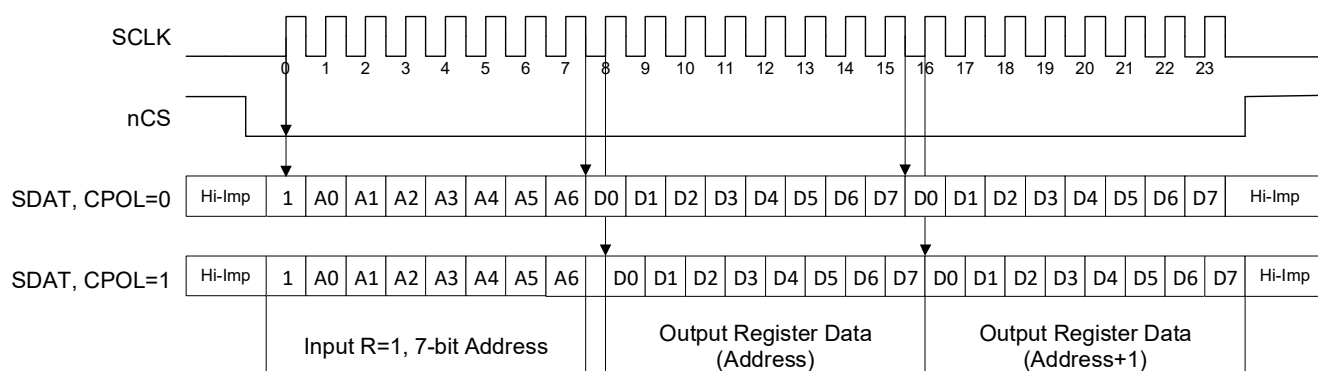
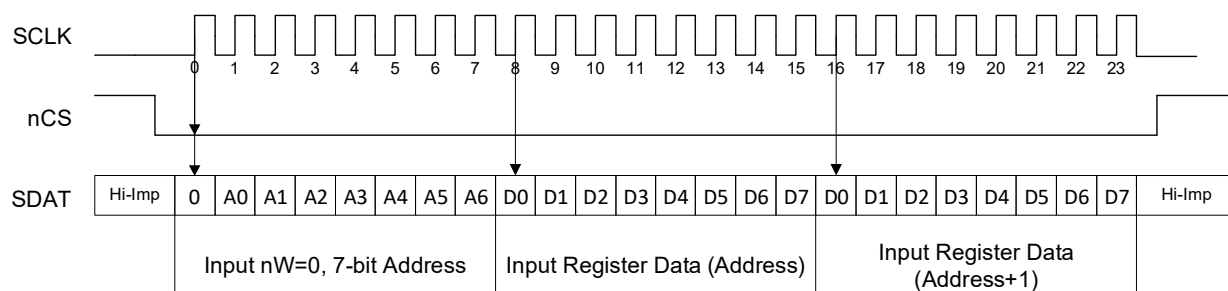

Figure 9. Logic Diagram: READ Data from RC18016 Registers for CPOL = 0 and CPOL = 1
Figure 10. Logic Diagram WRITE Data into RC18016 Registers
**Read operation:** Read from an internal register. A read operation starts with an 8-bit transfer from the master to the slave. SDAT is clocked on the rising edge of SCLK. The first bit is the direction bit R/nW which must be to 1 to indicate a read transfer, followed by 7 address bits A[0:6]. After the first 8 bits are clocked into SDAT, the SDAT I/O changes to output: the register content addressed by A[0:6] is loaded into the shift register and the next 8 SCLK falling clock cycles (if CPOL = 0) will then present the loaded register data on the SDAT output and transfer these to the master. Transfers must be completed by de-asserting nCS after any multiple 8 SCLK cycles. If nCS is de-asserted at any other number of SCLKs, the SPI behavior is undefined. SPI byte (8 bit) and back-to-back read transfers of multiple registers are supported with an address auto-increment. During multiple transfers, nCS must stay at logic low level and SDAT will present multiple registers (A), (A+1), (A+2), etc. with each 8 SCLK cycles. During SPI Read operations, the user may continue to hold nCS low and provide further bytes in a single block read.
**End of transfer:** After de-asserting nCS, the SPI bus is available to transfers to other slaves on the SPI bus. See also the READ diagram (Figure 9) and WRITE diagram (Figure 10) displaying the transfer of two bytes of data from and into registers.